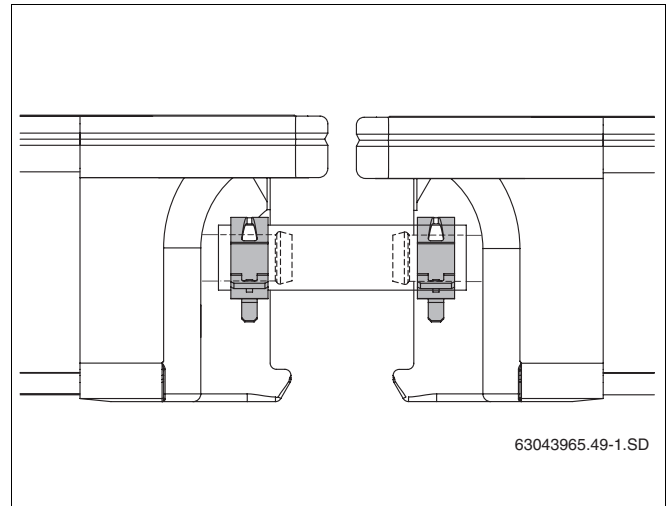

Fig. 50 Solar hose with secured hose clips
- ▶ Secure every solar hose to the collector connection using a hose clip (Fig. 50).